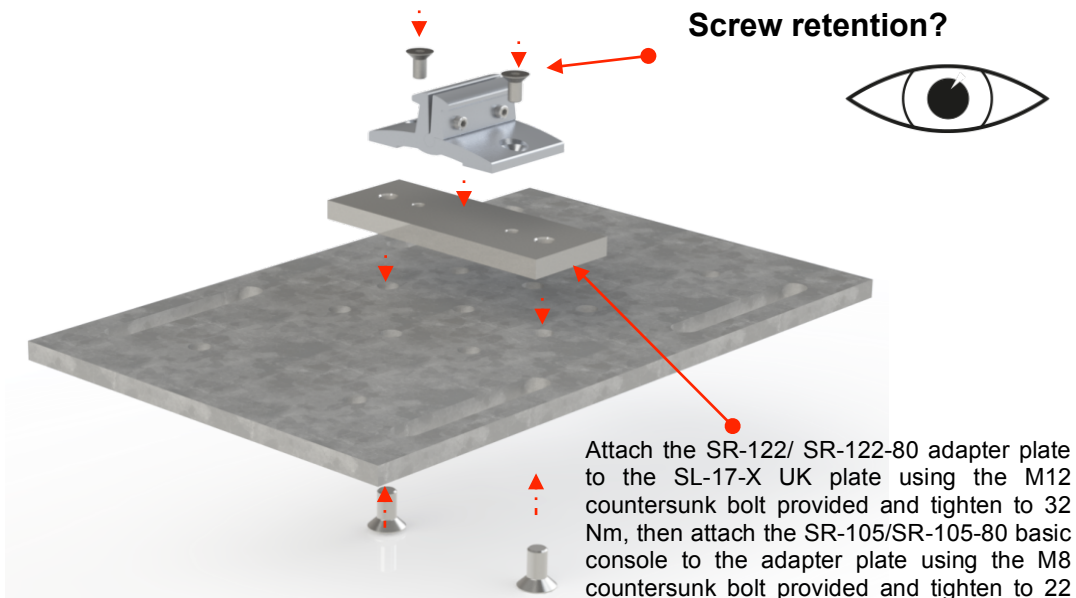

Fig. 6: Installation of SR-105 basic console to SR-122 adapter plate for SR0-017 UK plates
7. Refer to the diagrams Fig. 1 - Fig. 6 in chapter 5 for the assembly of individual parts